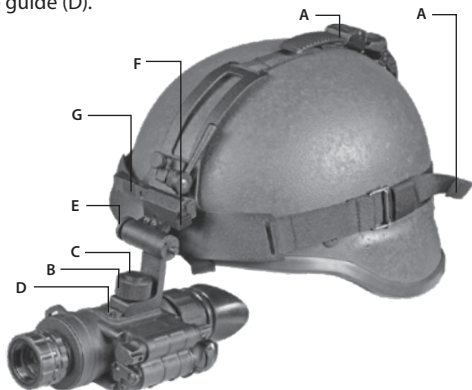

FIGURE 3-3. MOUNTING THE SIRIUS TO A HELMET
1. Attach the mount to the helmet as shown in Figure 3-3.
2. Adjust and tighten the straps (A).
3. Loosen the screw (B). With the button (C) pushed down, insert the Sirius rail into the guide (D) of the helmet mount bracket. Tighten the screw (B).
5. Push the button (F) and move the unit along the slide-rail (G) until the most comfortable position is reached.
5. To adjust the unit for comfort, loosen the screw (B) and move the unit along the guide (D).
7. To remove the Sirius and turn it around, push the button down (E) and lift the unit up until it reaches the top position. Once it reaches this position, the unit will turn off automatically.
8. Push the same button (E) to lower the Sirius into the proper viewing position. Turn the unit on to proceed with your mission.
In Figure 3-3, the Sirius is shown in the correct position for the left eye. To readjust the Sirius for the left eye, reverse its positioning and reinstall it on the helmet mount bracket (see Figure 3-3). Use the second unit rail located on the opposite side of the unit. Push the button (F) and move the unit along the slide-rail (G) until the most comfortable position is reached.